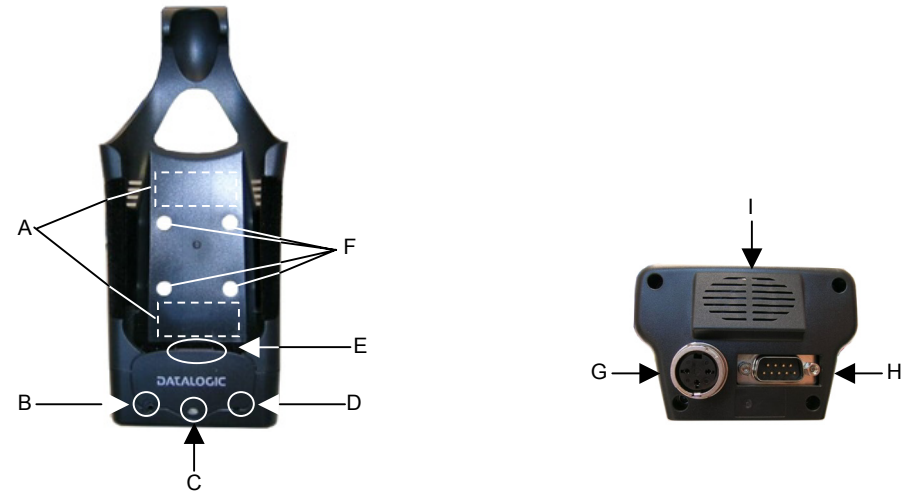

Figure 1 – Datalogic Jet™ Single Vehicle Cradle
2. Carefully clean the adhesive strip seat of the rear of the cradle (see Figure 1) to remove any impurities that could reduce adhesion;